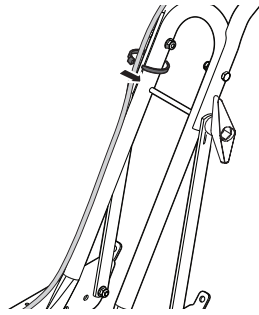

Figure 8
- Route the emergency stop control wire up the outside on the right side lower handle support and right side handle support bracket. Secure the wire to the handle and support with a cable tie, slightly above the support bracket. See Figure 8.